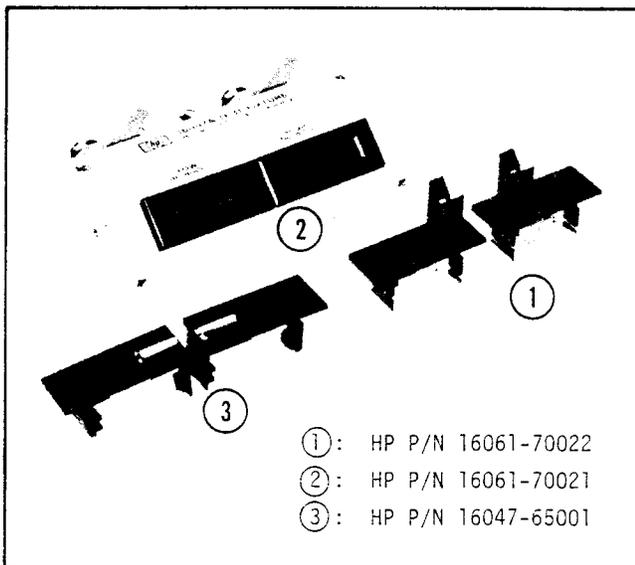
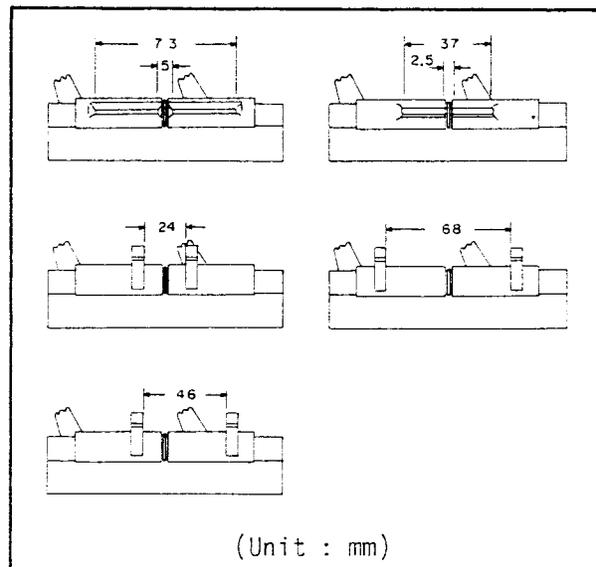

Figure 1. 16047A Test Fixture.
Figure 2. Dimensions of Test Fixture Contacts.
It is a direct attachment, 4-terminal pair configuration type test fixture for measurements on both axial and radial lead components. Three contact inserts — labelled ①, ②, and ③ in Figure 1 — are available: one, ①, for measurements on axial components and two, ② and ③, for measurements on radial lead components. DC bias levels up to ±35V can be applied to the device under test (DUT) through this test fixture. When used with the 4276A or 4277A, however, the 16047A can handle dc bias voltages up to ±40V. The dimensions of the contact inserts are given in Figure 2.